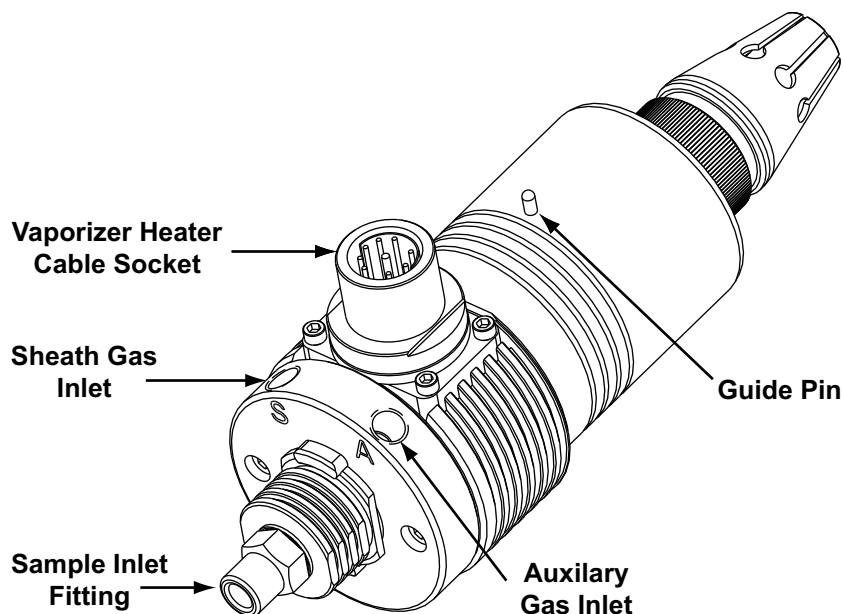

Figure 15. APCI probe
4. Insert the APCI probe into the port in the ion source housing. Align the guide pin on the probe body at a 45 degree angle from the ESI interlock block. See Figure 15.